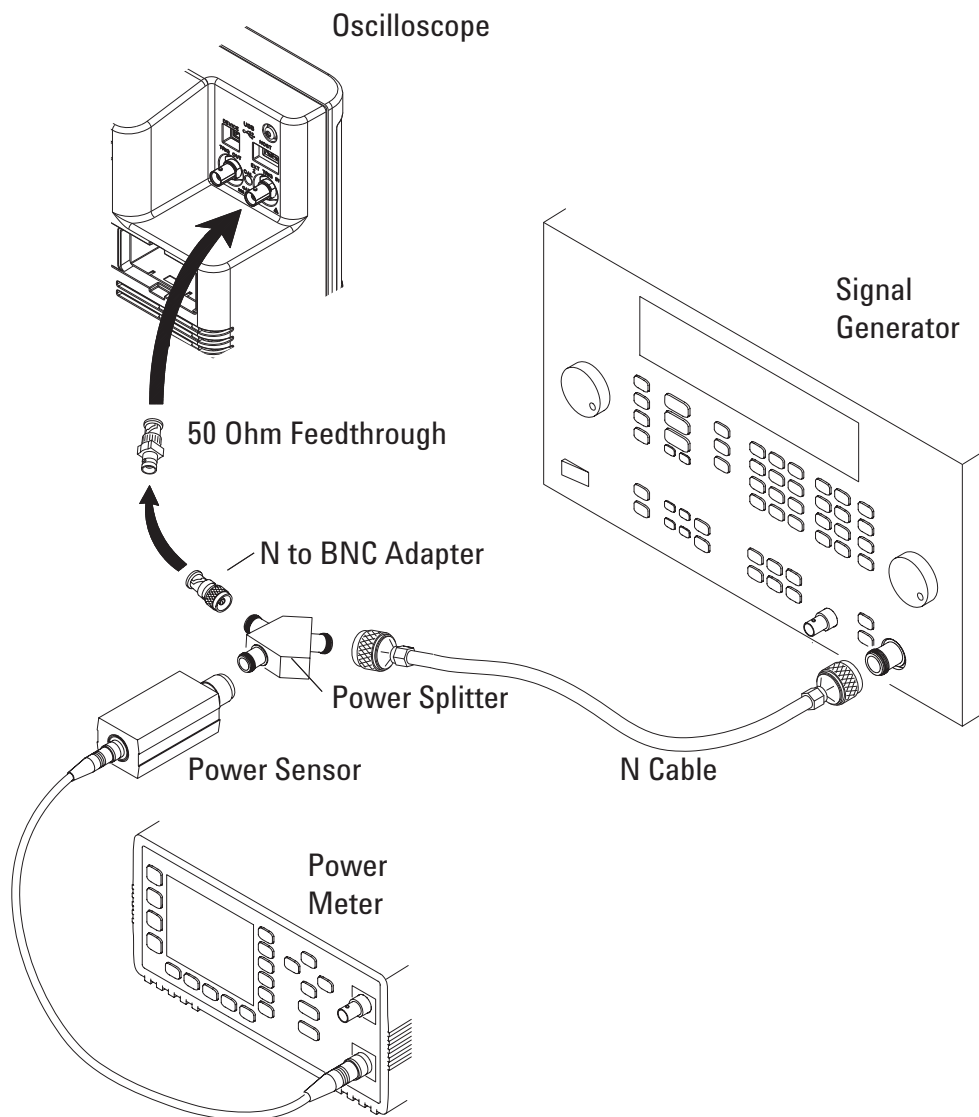

Figure 9 Setting Up Equipment for 4-Channel External Trigger Sensitivity Test
- 1** Connect the equipment (see **Figure 9**).